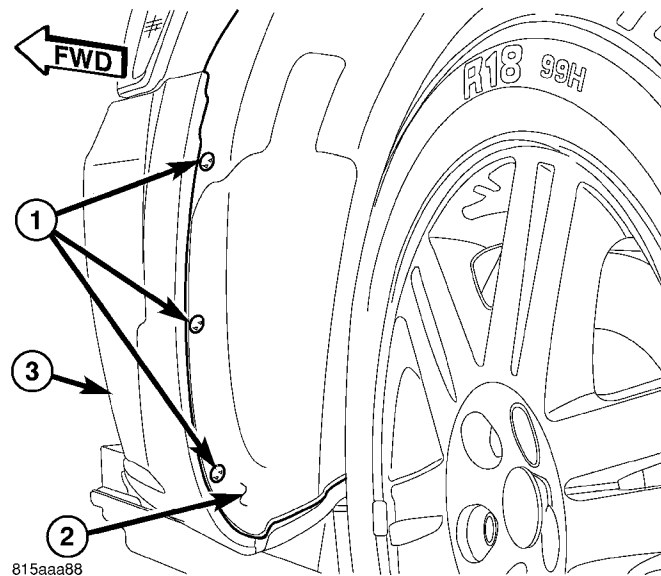

Fig. 1 WHEEL HOUSE (Left shown, right similar)
5. Remove the three push-pin retainers that secure each front wheel house splash shield to the front fascia assembly (Fig. 1).